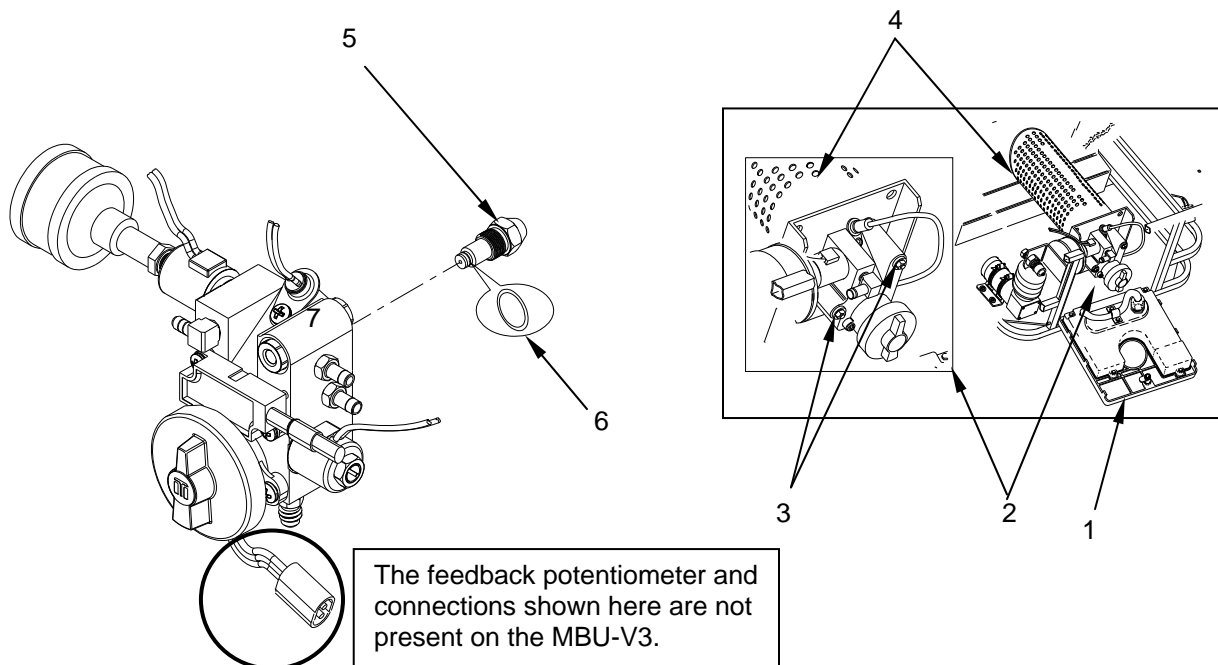

Figure 1. Replace the Fuel Nozzle.
4. Unscrew the nozzle (Figure 1, Item 5) from the fuel delivery block (Figure 1, Item 2).
5. Lubricate the O-ring (Figure 1, Item 6) on the replacement fuel nozzle (Figure 1, Item 5) with a small amount of clean fuel. The O-ring is supplied in place on the fuel nozzle.
6. Screw the replacement fuel nozzle (Figure 1, Item 5) into the fuel delivery block (Figure 1, Item 2).
7. With the replacement nozzle (Figure 1, Item 5) installed, move the fuel delivery block (Figure 1, Item 2) into position. Replace tighten two hex nuts and washers (Figure 1, Item 3) securing them tightly to the burner tube (Figure 1, Item 4).
8. Close control panel (Figure 1, Item 1) and secure.